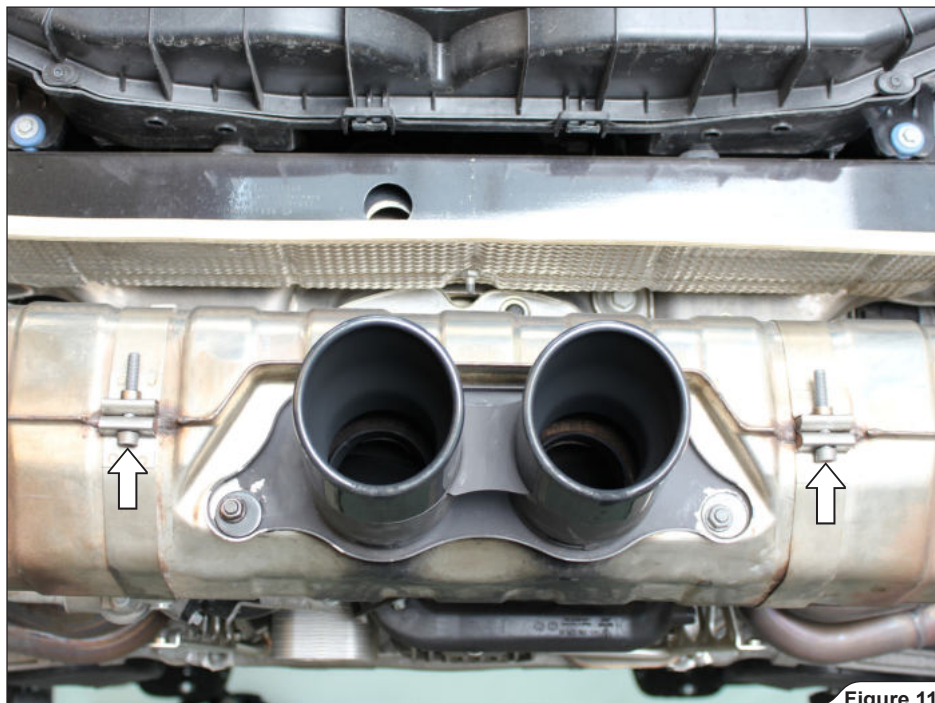

Figure 11
9. Unscrew the marked bolts and remove the central muffler with clamps off the vehicle (**Figure 11**).